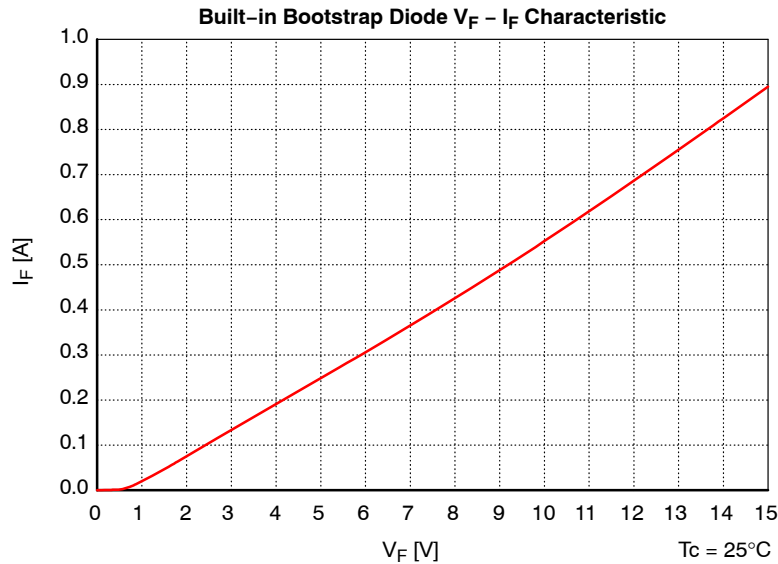

Figure 2. Built-in Bootstrap Diode Characteristics (Typical)
8. Built-in bootstrap diode includes around $15\ \Omega$ resistance characteristic. Please refer to Figure 2.